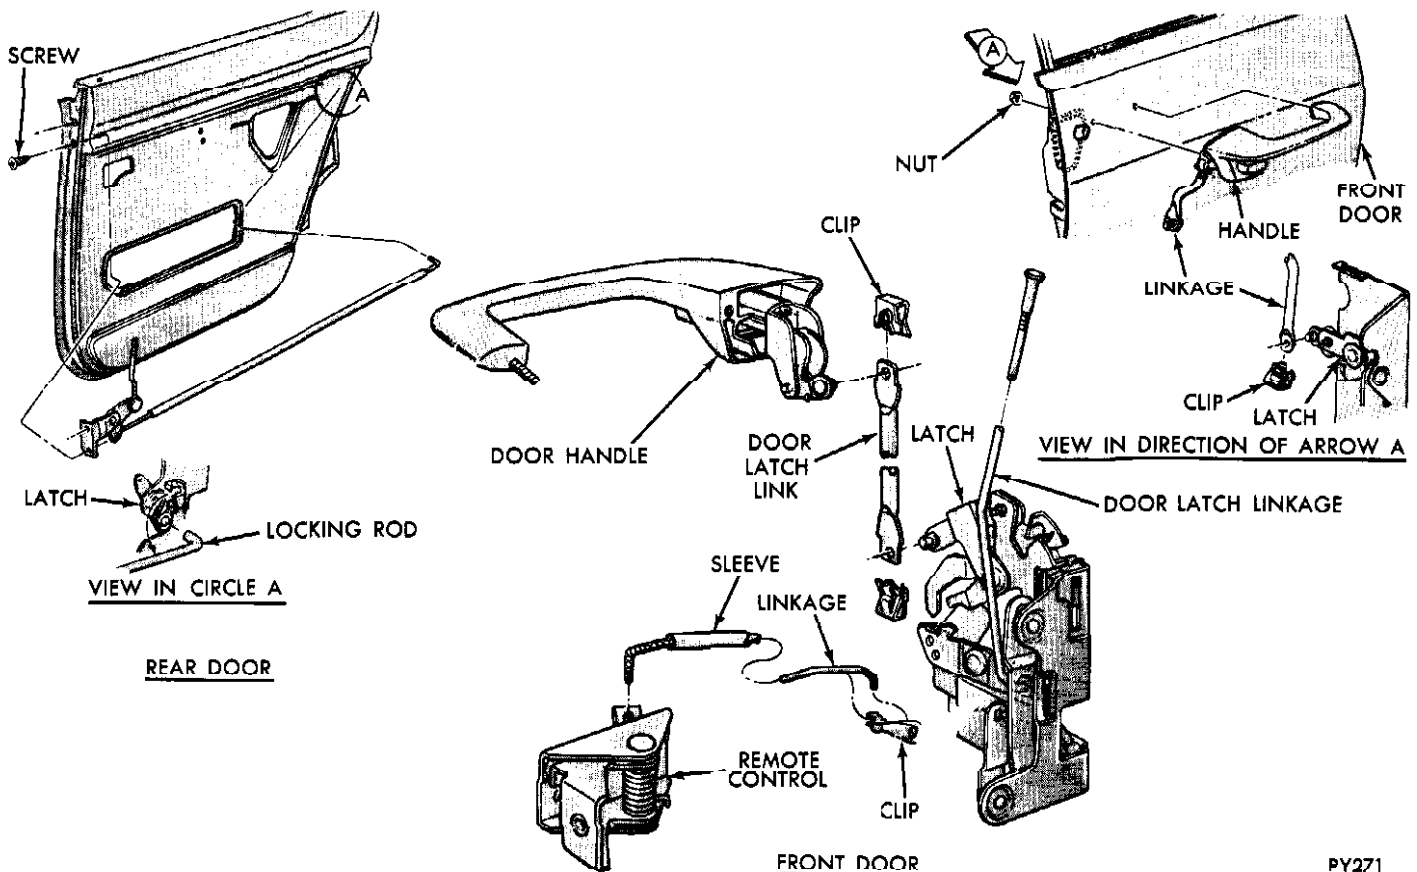

Fig. 15—Front and Rear Door Locking Mechanism
- (1) Disconnect handle to lock link (Fig. 15) from lock by pulling link outward at lock.
- (2) Disconnect locking lever rod (front door only) from lock assembly.
- (3) Disconnect locking rod link from lock.
- (4) Remove screws attaching lock assembly to door.
- (5) Rotate lock assembly and disconnect remote control link when removing lock.
- (6) Lubricate all moving points of lock assembly.